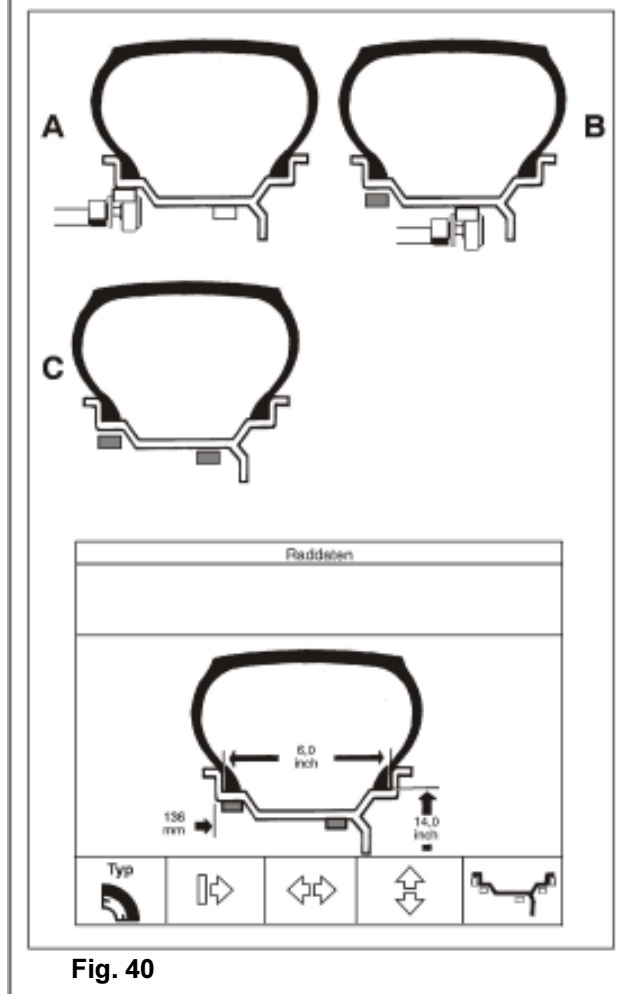

Fig. 40
- Then approach the gauge head to the second position and hold until this balance weight symbol also turns green (Fig. 40.C), the gauge head disappears from the display, an audible signal is given and the dimensions are read out on the display.